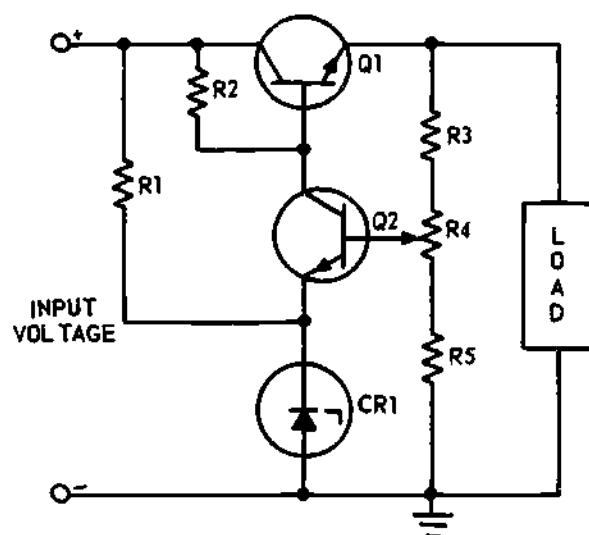

Figure 35-4. EVR
3. When the arm of R4 in figure 35-4 is moved upward, the voltage across the load will:
4. When the arm of R4 in figure 35-4 is moved downward, the voltage across the load will:
5. An increase in the load of figure 35-4 would have the same effect on Q1 as moving the arm of R4 in which direction?
6. A decrease in the load of figure 35-4 would have the same effect on Q1 as moving the arm of R4 in which direction?
7. An increase in the input voltage in figure 35-4 would have the same effect on Q1 as moving the arm of R4 in which direction?
8. A decrease in the input voltage in figure 35-4 would have the same effect on Q1 as moving the arm of R4 in which direction?